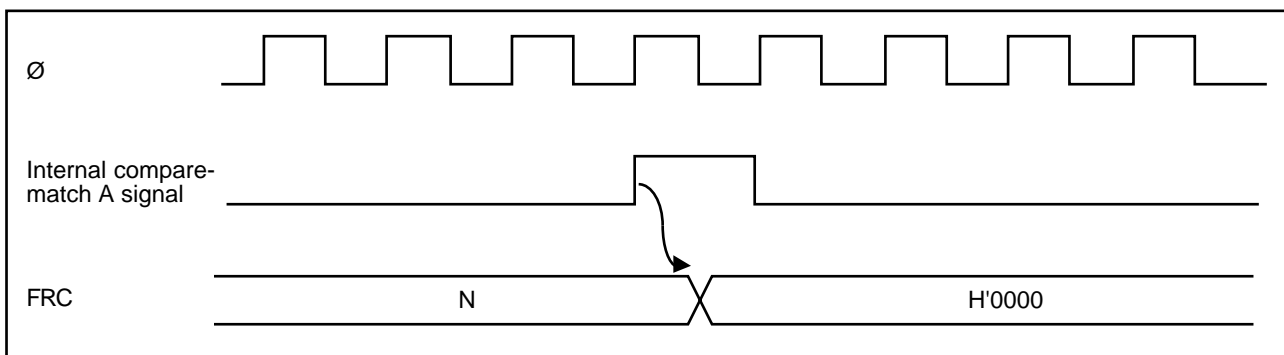

Figure 6-11. Clearing of FRC by Compare-Match A
(4) FRC Clear Timing: If the CCLRA bit in the TCSR is set to “1,” the FRC is cleared when compare-match A occurs. Figure 6-11 shows the timing of this operation.